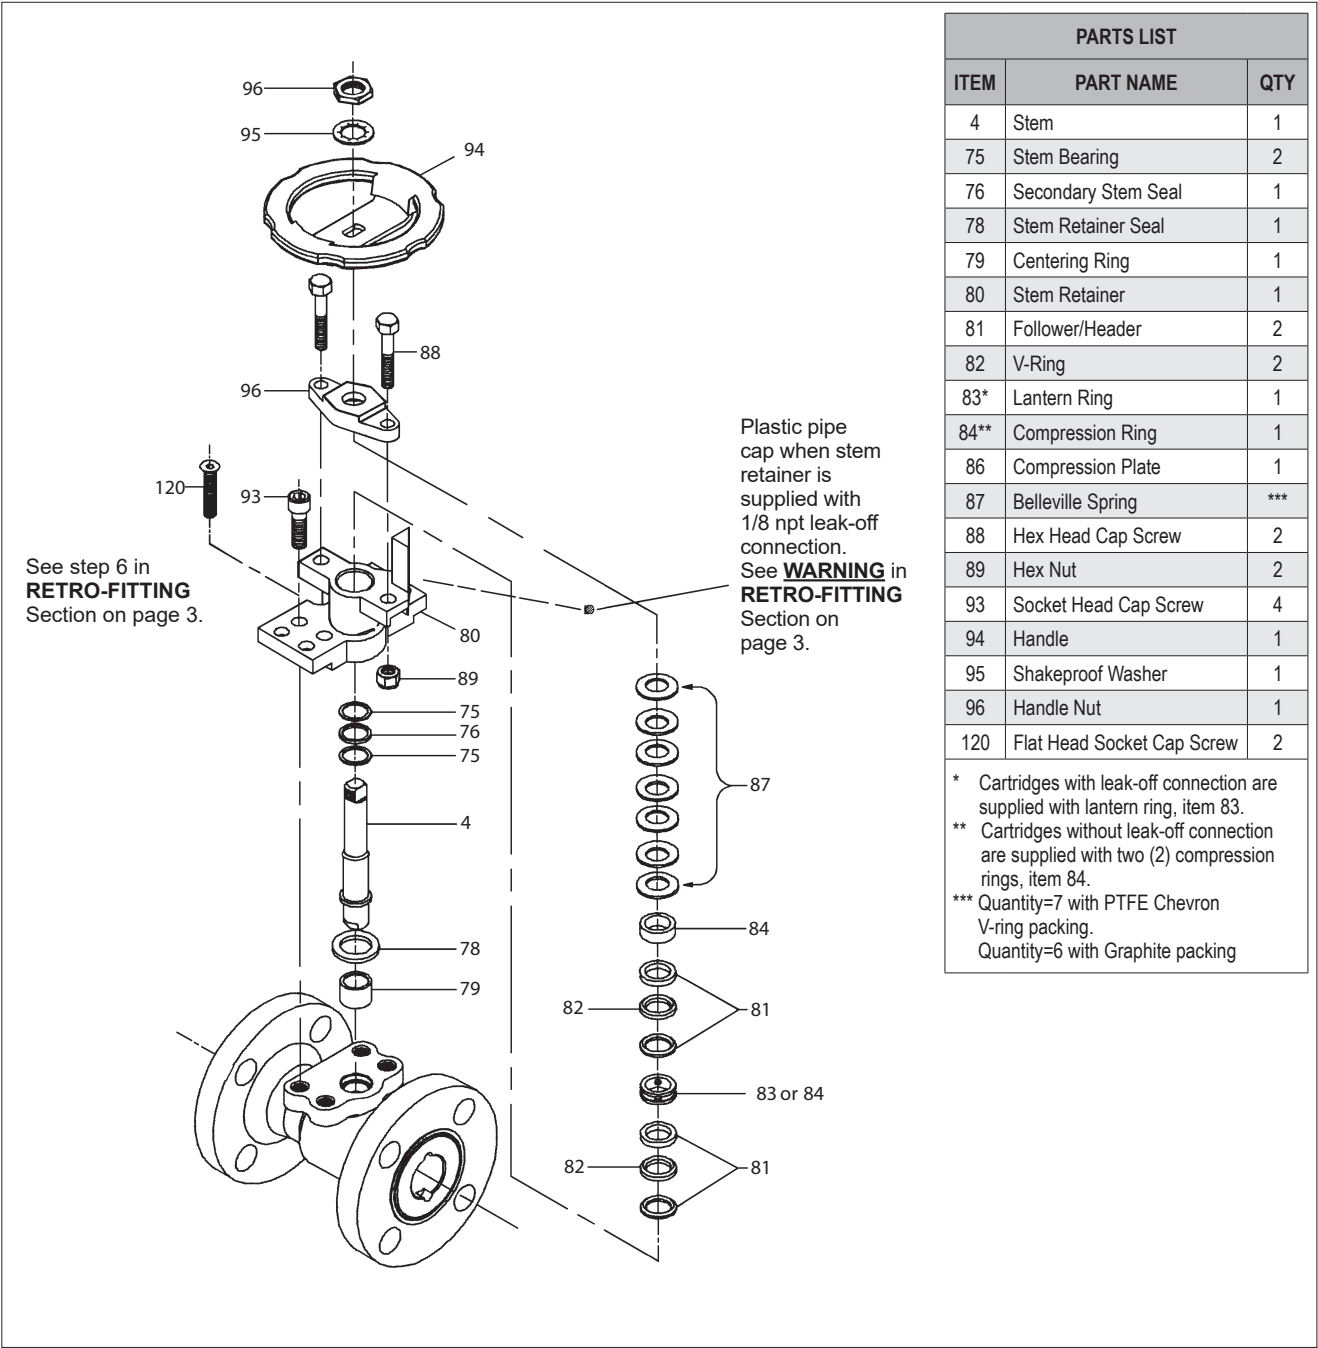

Figure 2.
- c. From **Figure 2**, the ballooned part number, part name and quantity required.